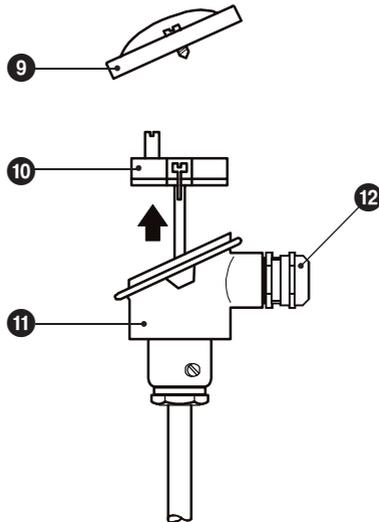
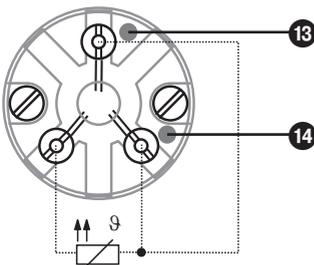
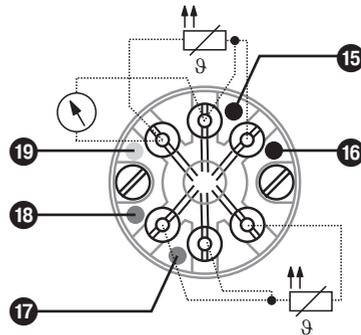

Fig. 4
Fig. 9
Fig. 10
1. Take the cover ⑨ off the terminal box ⑪. **Fig. 4**
2. Unscrew cable gland ⑫.
3. Pull cable through cable gland ⑫, ring, joint ring and terminal box ⑪.
4. Wire the connecting terminals of the temperature sensing element ⑩ in accordance with the wiring diagram **Fig. 9, Fig. 10**.
5. You can also connect other equipment, e. g. display units, to the terminals marked in yellow and black of the TRG 5-54. **Fig. 10**
6. Fasten the cable gland ⑫.
7. Put cover ⑨ back on and secure it with screws.
Make sure that the TRG 5-5... is wired to the associated control unit TRS 5-6 or TRS 5-8 according to the wiring diagram. **Fig. 9, Fig. 10**
1. Take the cover **9** off the terminal box **11**. **Fig. 4**